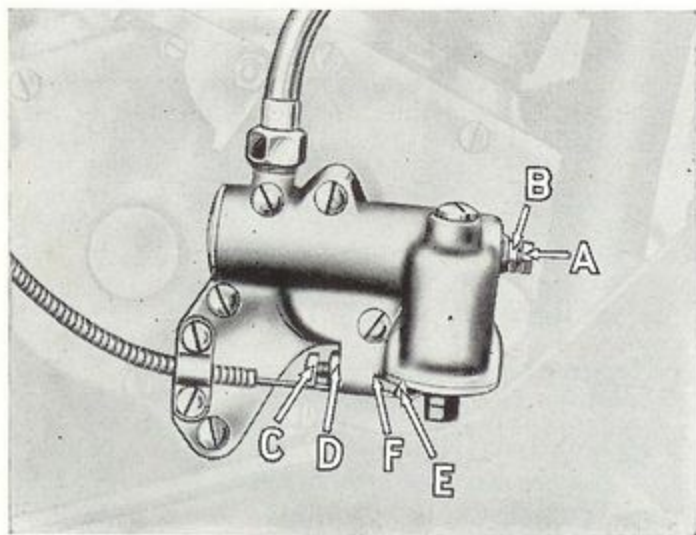
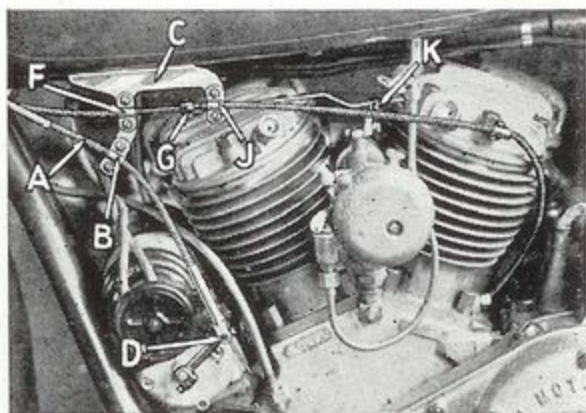

Figure 26
Figure 29
If necessary at any time to alter the amount of oil pumped at *idling speeds*, loosen lock nut "B" (Fig. 26) and turn screw "A" to the right (*in*) to increase the supply and to the left (*out*) to decrease the supply.
**Models 45 and 74—1931 and 1932**—Pass the flexible casing for spark control cable "A" (see Fig. 29) which comes from the right handlebar, to left of frame head and attach clevis to the magneto advance lever "D". Then with the right grip turned in or to the left as far as it will go, push the magneto or circuit breaker advance lever down as far as it will go and fasten cable casing to bracket "C" by tightening clip "B". Test by turning the right grip in and out to be sure that full range of the spark lever is obtained. If necessary, adjust by sliding cable casing in clip "B".
Pass the flexible casing for mechanical oil pump in rear of the rear cylinder and fasten to bracket "C" by tightening clip "J" so that the end of the casing is flush with the front end of clip "J". With the left grip turned out to the left as far as it will go and with the mechanical oil pump lever "E" (Fig. 26) in open position so that it rests against stop screw "C" (Fig. 26) fasten the oiler cable to block "G" (Fig. 29). Test by turning the left grip in and out to be sure that full range of both the throttle and mechanical oiler levers is obtained simultaneously. Adjustments are made by sliding cable casings in clips "F" and "J" and also by sliding throttle rod in swivel block at "K" (Fig. 29).